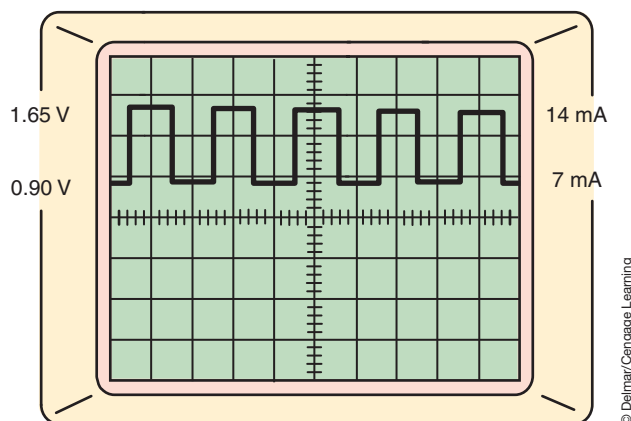

FIGURE 10-32 Output waveform of the magnetoresistive sensor.
Magnetoresistive (MR) sensors do not generate their own signal voltage and require an external power source. The MR bridge changes resistance due to the relationship of the tone wheel and magnetic field surrounding the sensor. The integrated circuit (IC) in the sensor is powered by a 12-volt circuit that is sent by the computer. The IC supplies a constant 7 mA power supply to the computer. The relationship of the tooth on the tone wheel to the permanent magnet in the sensor signals the IC to enable a second 7 mA power supply. The output of the sensor, sent to the computer, is a DC voltage signal with changing voltage and current levels. When a valley of the tone wheel is aligned with the sensor, the voltage signal is approximately 0.8 volts and a constant 7 mA current is sent to the computer. As the tone wheel rotates, the tooth shifts the magnetic field and the IC enables a second 7 mA current source. The computer senses a voltage signal of approximately 1.6 volts and 14 mA (Figure 10-32). The computer measures the amperage of the digital signal and interrupts the signal as component speed.